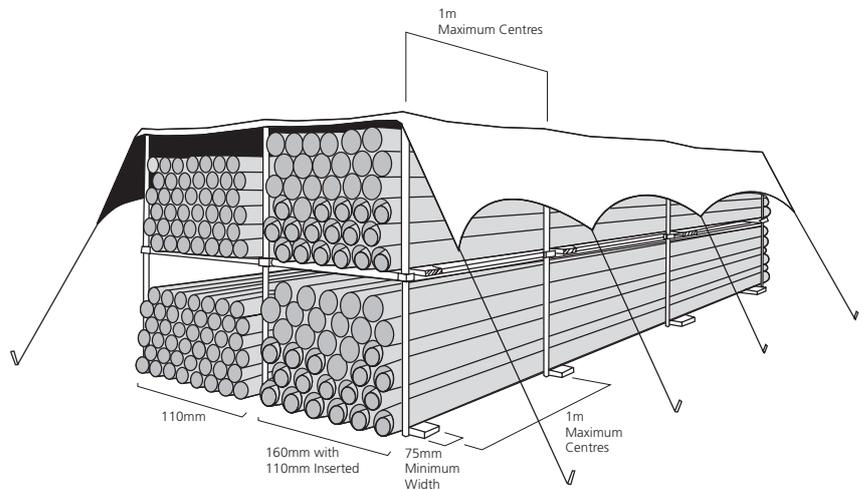

Fig. 1 Pipe stacking
- Provide side support with 75mm wide battens at 1m centres (*Fig. 1*)